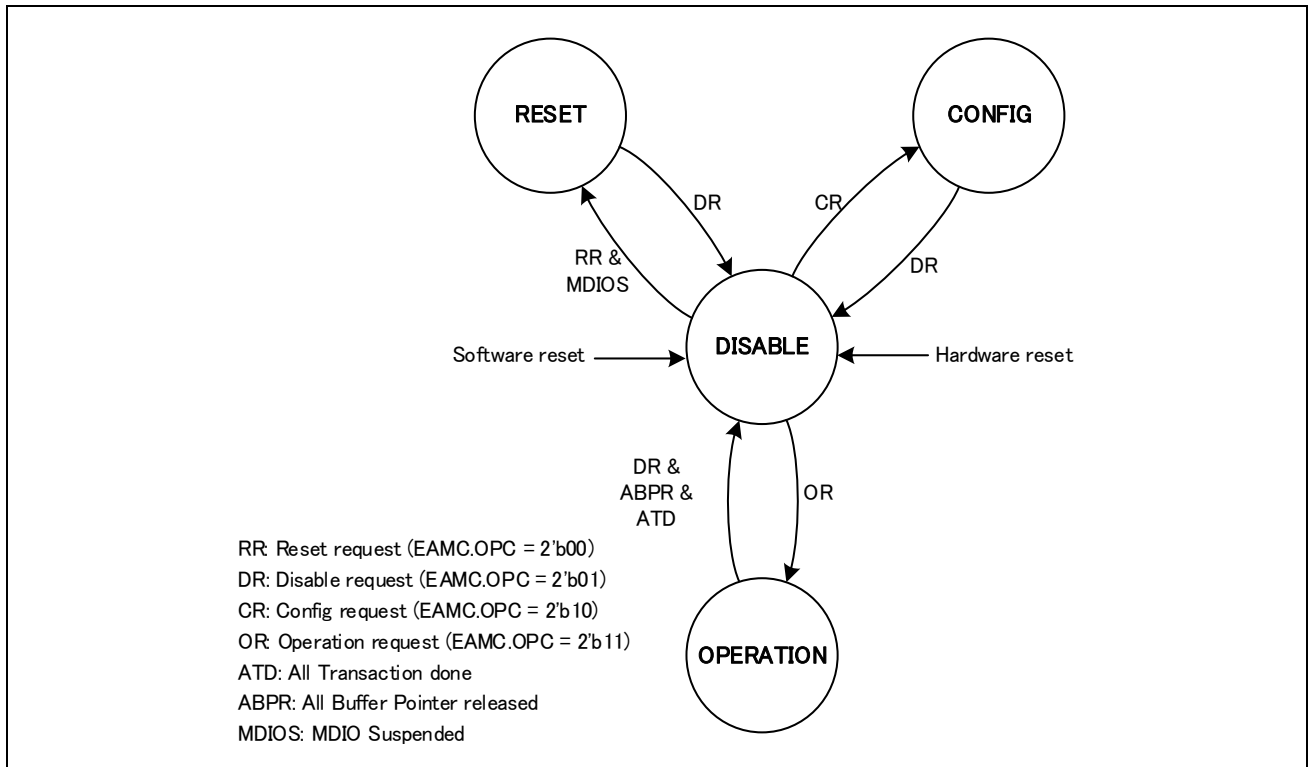

Fig 4.1: Operating mode transitions
Fig 4.1 shows the operating mode transitions.
- Software shall only trigger transitions shown to Fig 4.1.